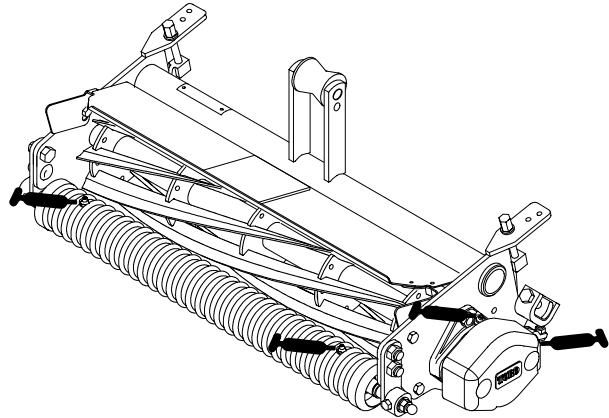

Figure 6
- Reel bearings (2) (Fig. 6)
- Front and rear rollers (2 ea.) (Fig. 6)